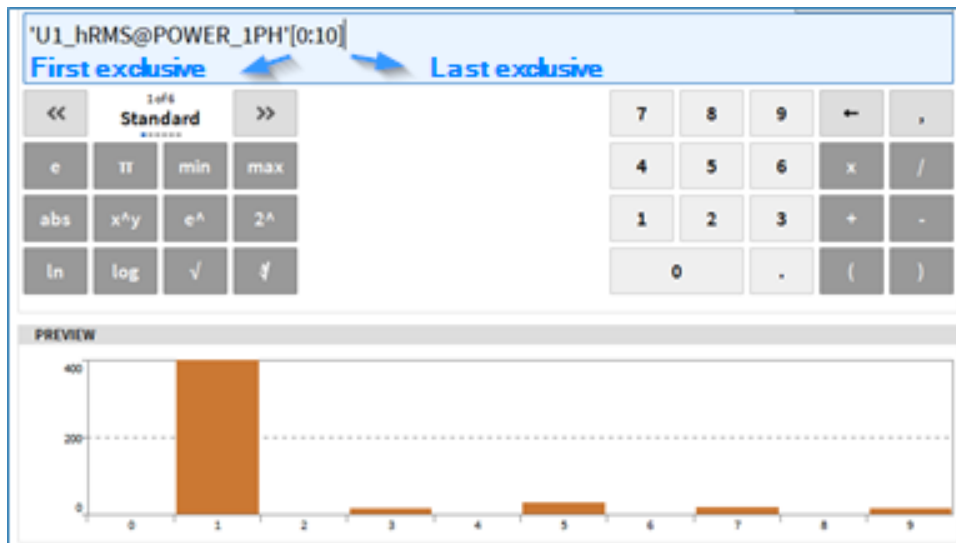

Fig. 7.79: Extraction of several adjacent elements
- When extracting several adjacent elements, the first specified index is always inclusive and the last one is always exclusive (see Fig. 7.79)
- Extraction of several adjacent elements (see Fig. 7.79). The output will be an array channel with the number of extracted element as new dimension.